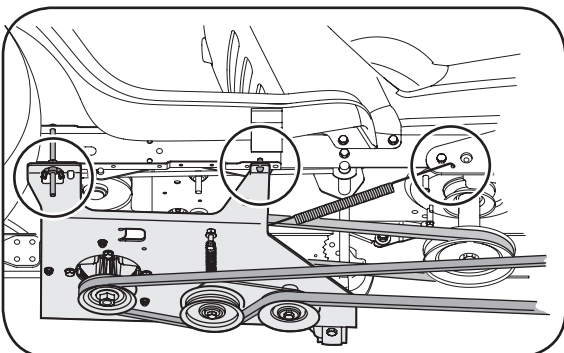

Figure 23
3. Connect the extension spring found in your units loose parts that was mentioned earlier. This spring connects to the idler bracket on the undercarriage assemble and the hole on the rear right-hand snow thrower mounting bracket. See Figure 23.
4. Attach the lower auger drive belt by routing it around and through the pulley system as seen in Figure 23.